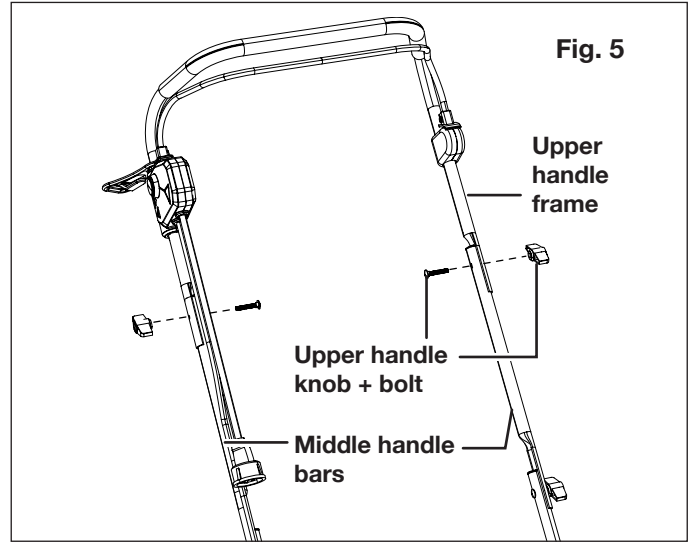

Fig. 5
4. Connect the upper handle frame to the middle handle bars using the remaining knobs and bolts. Tighten the knob on each side to ensure a secure fit (Fig. 5).